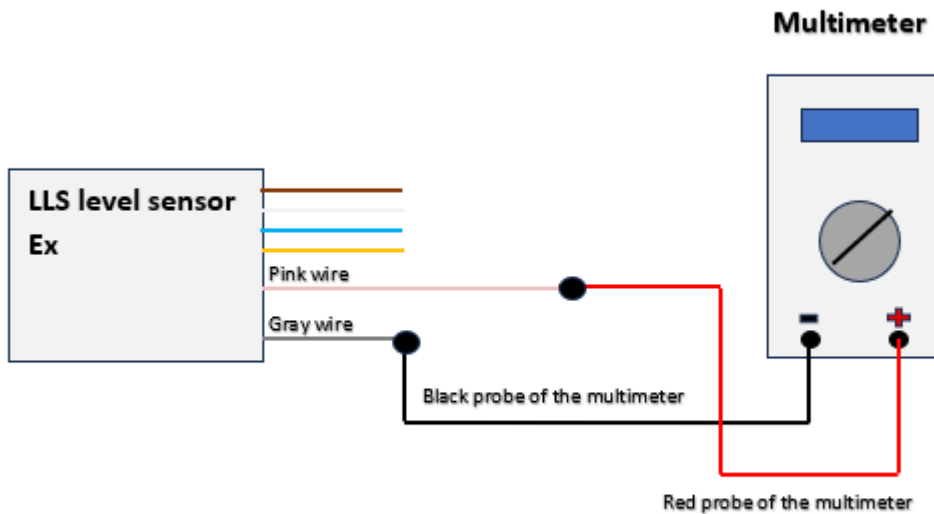

Fig. 9 Connection Diagram
2. Assemble the connection circuit according to "Fig. 9 Connection Diagram".